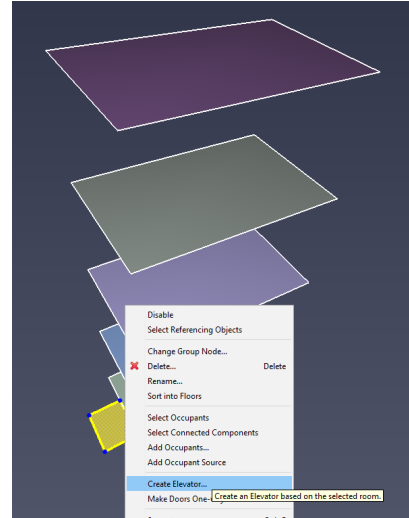

Figure 68. Select Create Elevator in right-click menu
3. Right-click the base room, and from the right-click menu, select **Create Elevator**, see Figure 68. This will show the **New Elevator** dialog as shown in Figure 69.